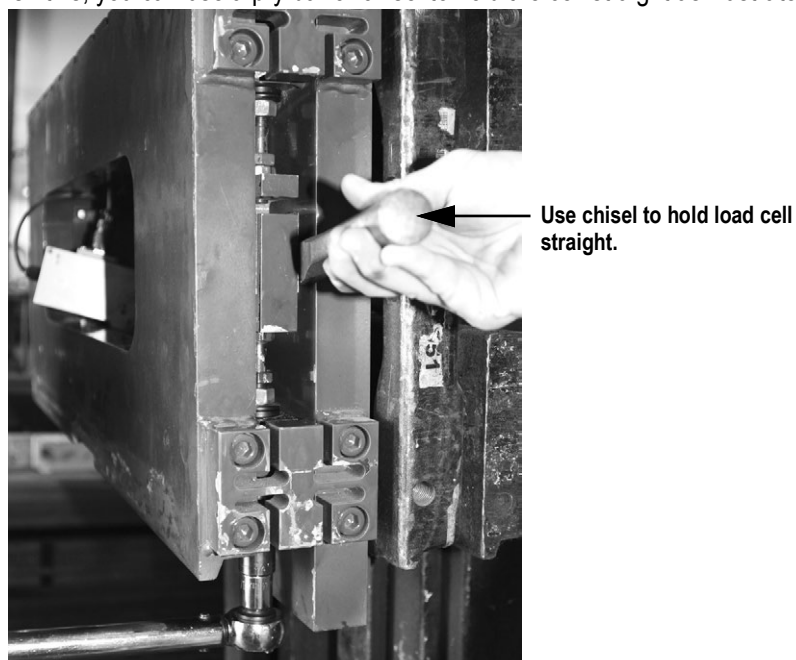

Figure 6-79. Use Chisel to Hold the Load Cell in Straight
24. Tighten the jam nuts on top and bottom of the load cell. Make sure they are tight and load cell is completely vertical to the scale. To accomplish this, you can use a pry bar or chisel to hold the cell straight as illustrated in Figure 6-79.